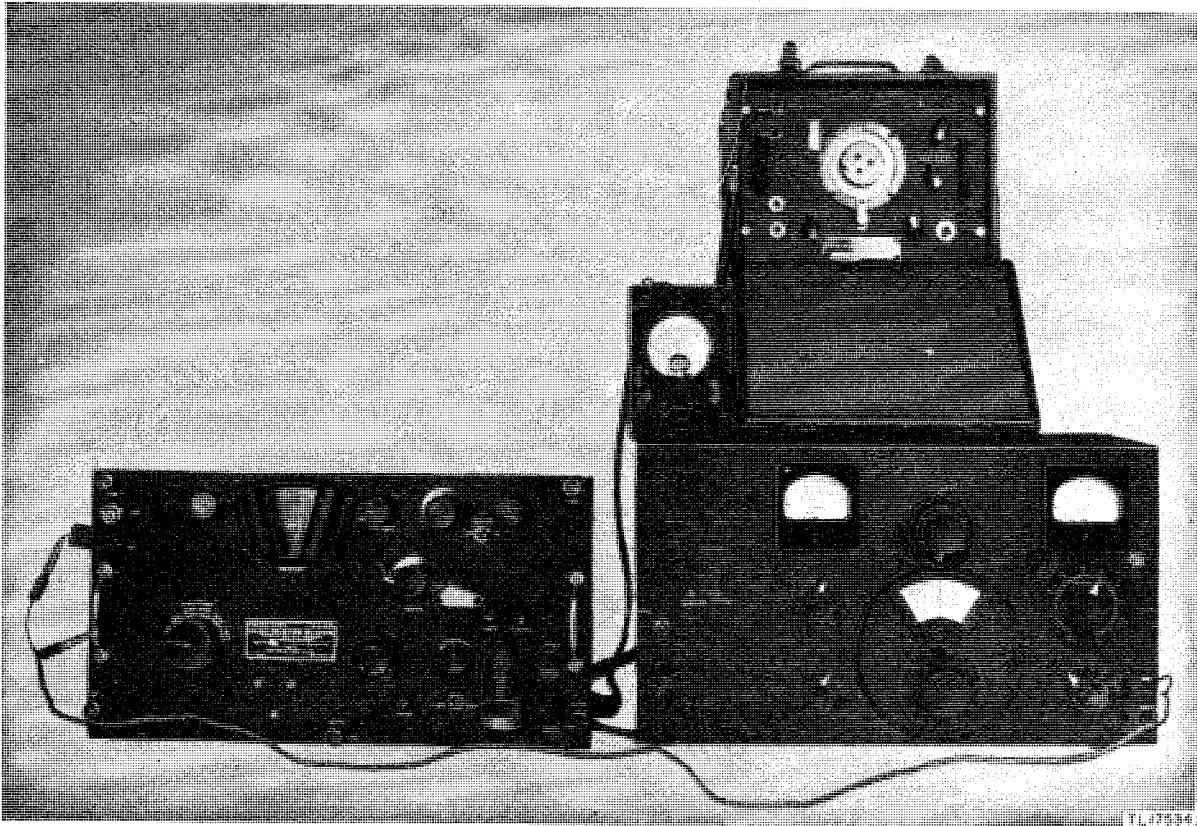

Figure 20. Final testing, typical set-up.
(1) Set up the receiver and test equipment as shown in figure 20.
(2) Connect one lead of a 50-mmF capacitor to the receiver antenna terminal and the other lead to the output lead of the signal generator.
(3) Connect the signal generator ground lead to the receiver chassis.
(4) Connect the output meter to the SPEAKER 2D AUDIO jack. If a vacuum-tube voltmeter is used, place a 4,000-ohm non-inductive resistor across the output of transformer T2; measure the output across the resistor.
(5) Turn the receiver VOL. control to maximum, the OFF-M. V. C.-A. V. C. switch to M. V. C., the CRYSTAL PHASING control to OUT, and the C. W.-OSC. switch to OFF.
(6) Set the signal generator for 30 percent modulation at 400 cycles.
(7) Tune the signal generator and receiver to 1.5 megacycles (1500 kc).
(8) Set the ALIGN INPUT control for maximum indication on output meter.
(9) Set the signal generator output attenuator to produce a reading on the output meter.
(10) Turn off the modulation of the signal generator.
(11) Turn the VOL. control counterclockwise until the output meter reads 3.3 volts. Should the output meter read 3.3 volts or less, leave VOL. control at maximum.